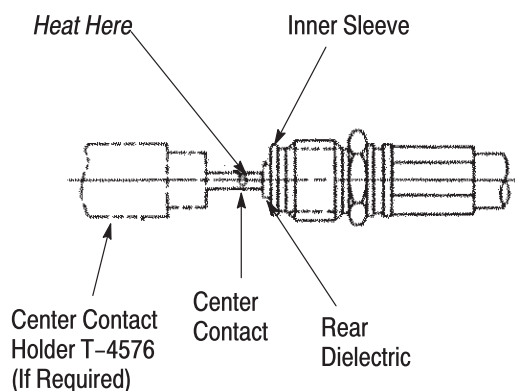

Figure 4
1. Place the center contact in a center contact holder, heat the center contact and and push it over the inner conductor of the cable with the large diameter of the contact resting firmly against the rear dielectric. Refer to Figure 4.